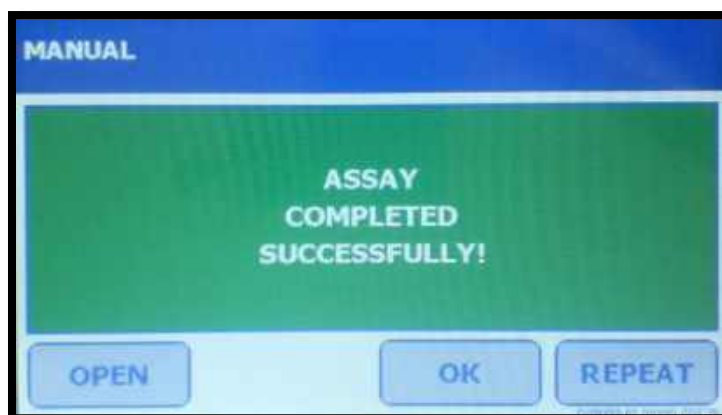

Figure V-12: Manual Assay Complete
3. Upon completion of the assay, the FP-24 5G screen displays “ASSAY COMPLETED SUCCESSFULLY!” (Figure V-12).
4. After an assay has been completed (Figure V-12):
In the Program Manually mode, an assay may be saved immediately after programming (Figure V-9) or upon completion of the assay (Figure V-12). To save an assay: